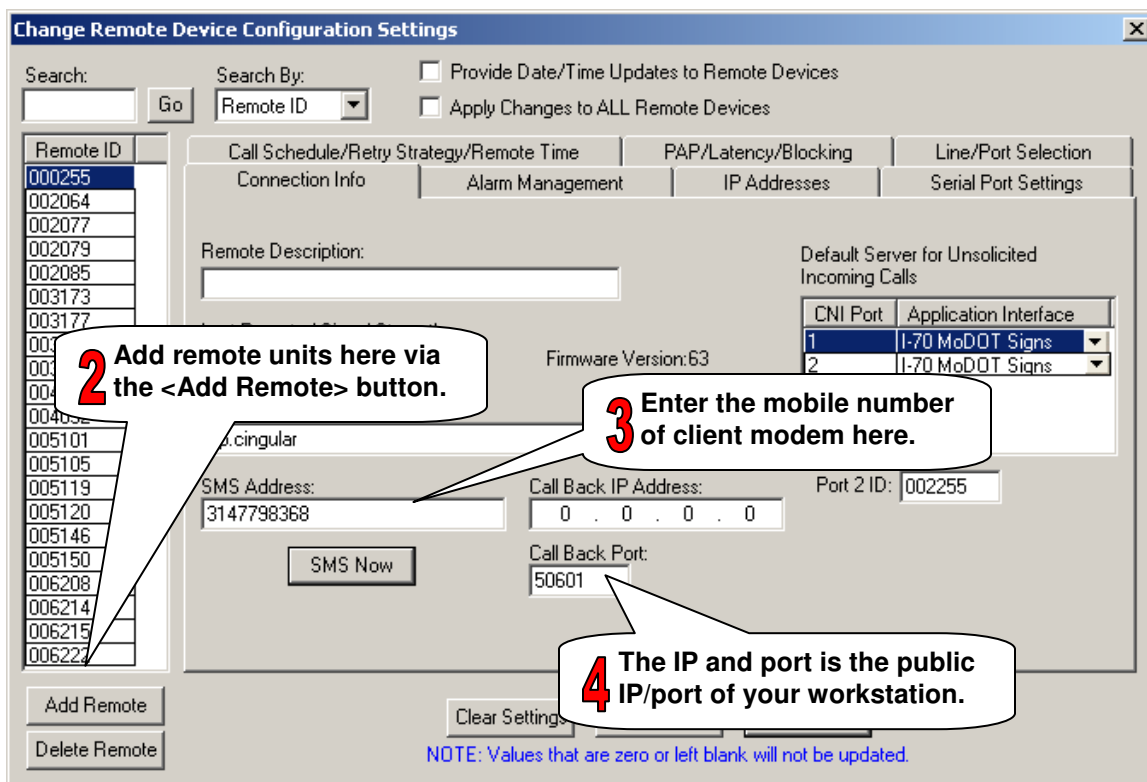

Figure 21 – InvisiConnect™ Configuration – Remote Device
1. Select *Change Remote Configuration* from the *Options* menu item to open a settings dialog box similar to Figure 21. (Note that this figure has already been populated with devices.)
2. Click the <Add Remote> button to add a remote device to the list. The device name can be up to six (6) hexadecimal characters so you should consider a logical naming scheme to allow you to identify the device by its name.